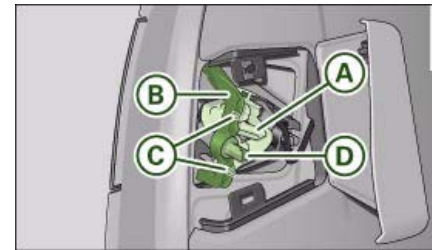

Fig. 260 The retaining clip for the bulb carrier has a guide pin
- Insert the bulb carrier into the rear light. Make sure you hear the retaining tab ⇒ fig. 260 (A) click into place.
- Position the retaining clip (B) so that the guide pins (C) are located in the recess on the retaining clip, and tighten the nut (D).